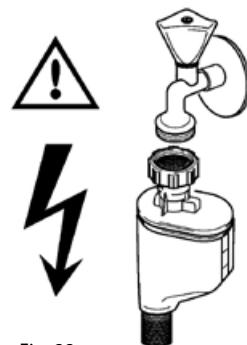

Fig. 22
- Connect the supply hose to a water tap with a 2/4" thread (Fig. 22). Make sure the supply hose is not bent, pressed or tangled.